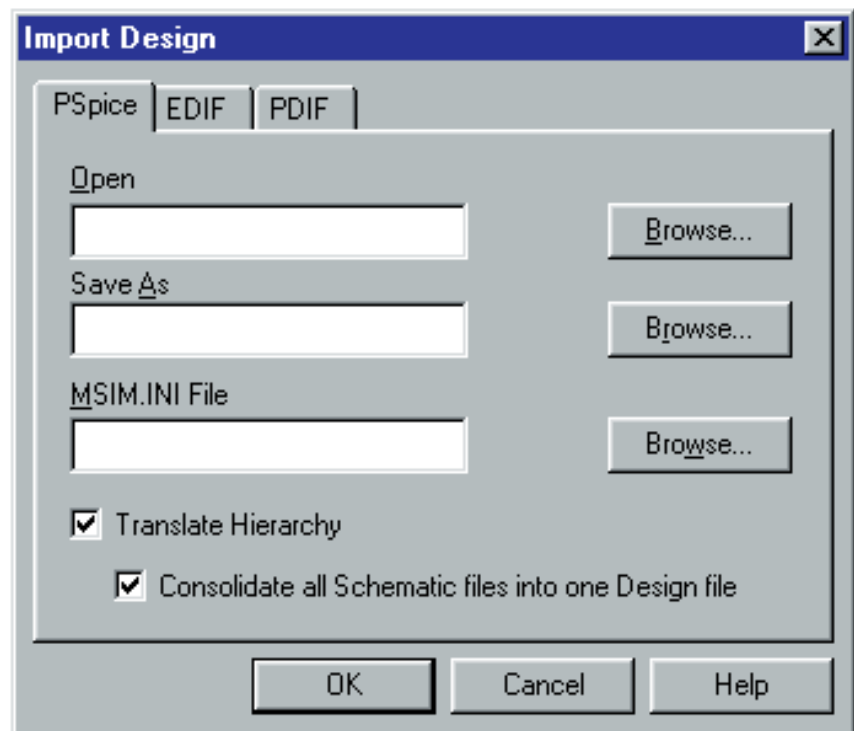

FIGURE A-9 Import Design Box
2. In order to open an existing schematic, click on the **F**ile menu and select **I**mport Design. The Import Design dialog box shown in Figure A-9 will open.